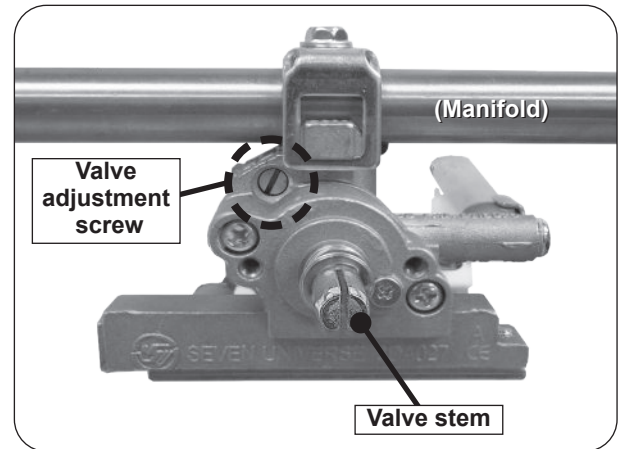

Fig. 45-1 Valve adjustment screw location
5. Locate the FLATHEAD adjustment screw found above the valve stem and below the manifold (see Fig. 45-1).